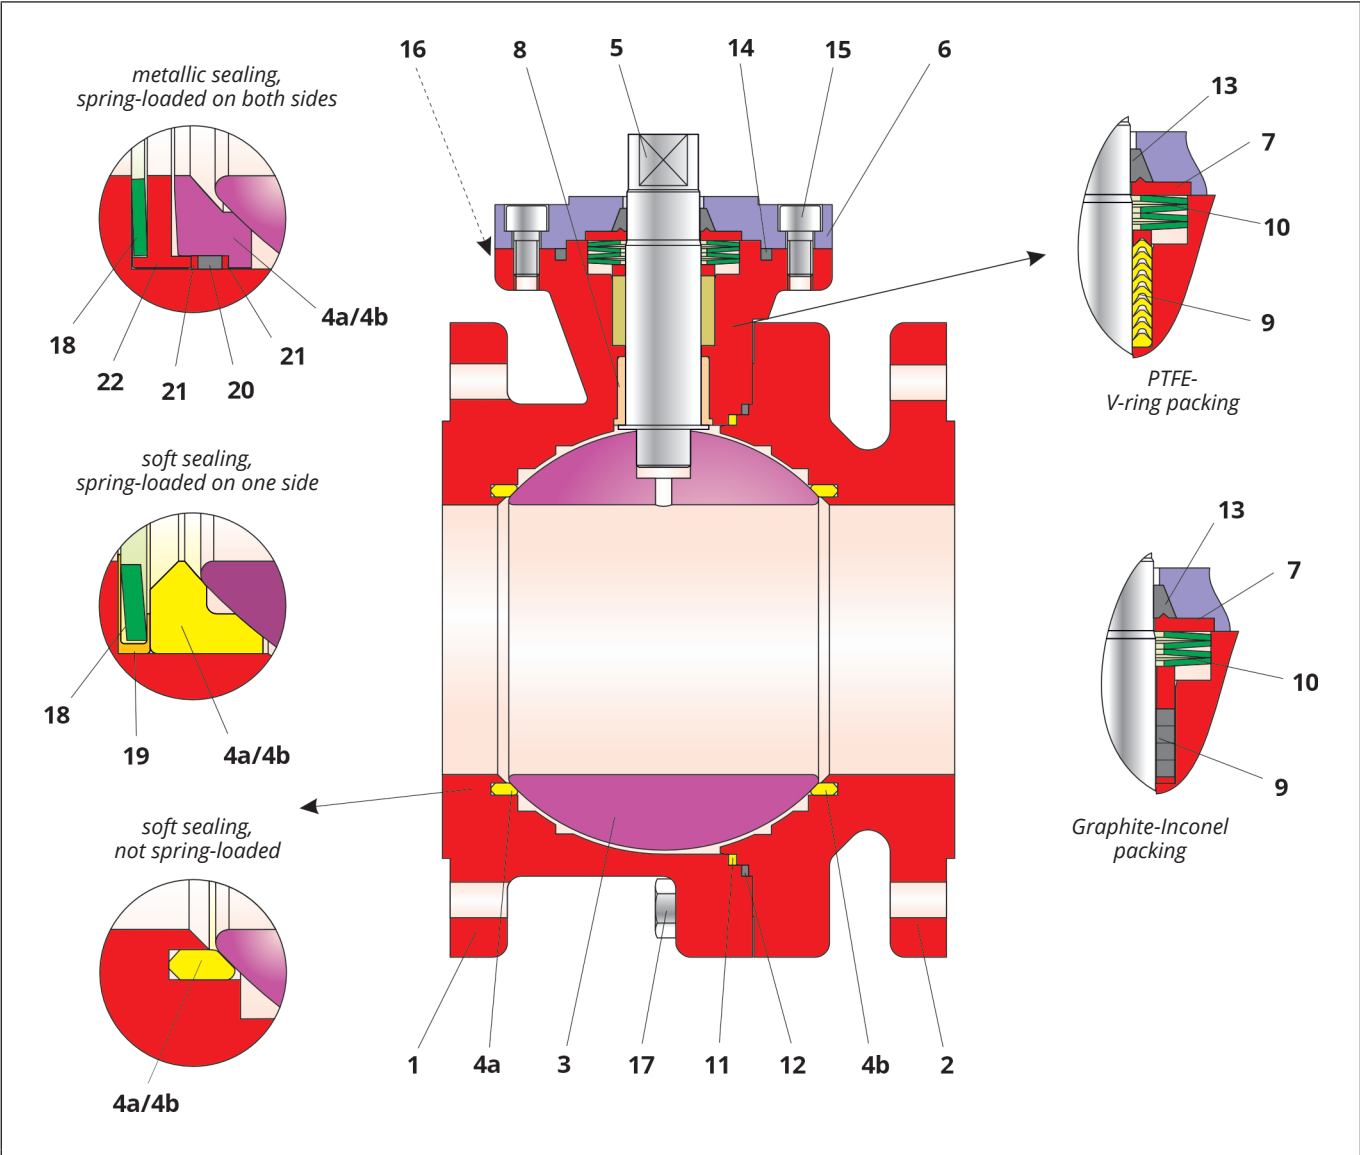

Fig. 3-1: Sectional drawing of the two-part ball valve with a floating ball up to PN 40/cl300
The position and arrangement of the individual parts shown in Fig. 3-1 must be observed during assembly.
- ⇒ Use a control shaft (5) and align the ball (3) evenly in the ball valve.
- ⇒ Screw the body sections together with screws (17) evenly and in a criss-cross pattern.
- ⇒ Push the V-ring packing (9) with a slight rotation movement over the assembled control shaft (5) and insert it into the packing space of the main body (1). Arrangement of the V-rings see Fig. 3-1.
- ⇒ Push the graphite packing (9) with a slight rotation movement over the assembled control shaft (5) and insert it into the packing location of the main body (1), see Fig. 3-1.
- ⇒ Place the disc spring set (10) on the packing (9). Arrangement of the disc springs, see Fig 3-1.
- ⇒ Push the bush (7) over the control shaft (5) such that it lies on the disc spring (10).
- ⇒ Push the carbon-graphite ring (13) carefully over the control shaft (5) up to the bush (7).
- ⇒ Insert the carbon-graphite ring (14) into the groove of the stuffing box flange (6).
- ⇒ Place the stuffing box flange (6) over the control shaft (5) onto the main body (1).
- ⇒ Lightly grease the screws (15).
- ⇒ Evenly adjust the stuffing box flange (6) with the screws (15) and tighten in a criss-cross pattern.
- ⇒ Screw in the optional screw plug (16).